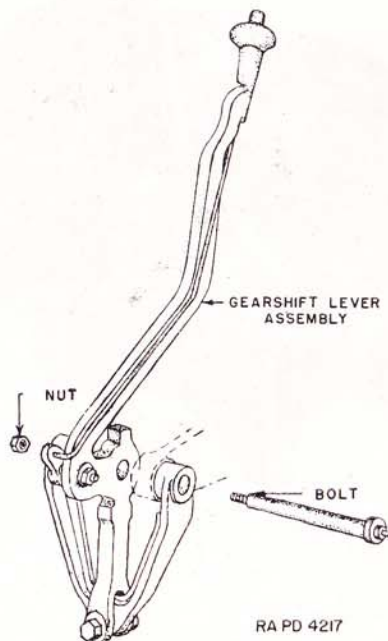

FIGURE 46.—Replacement of gear shift lever.
**89. Replacement of gear shift lever** (see fig. 46).—If the gear shift lever becomes broken or bent, it can be replaced as follows: